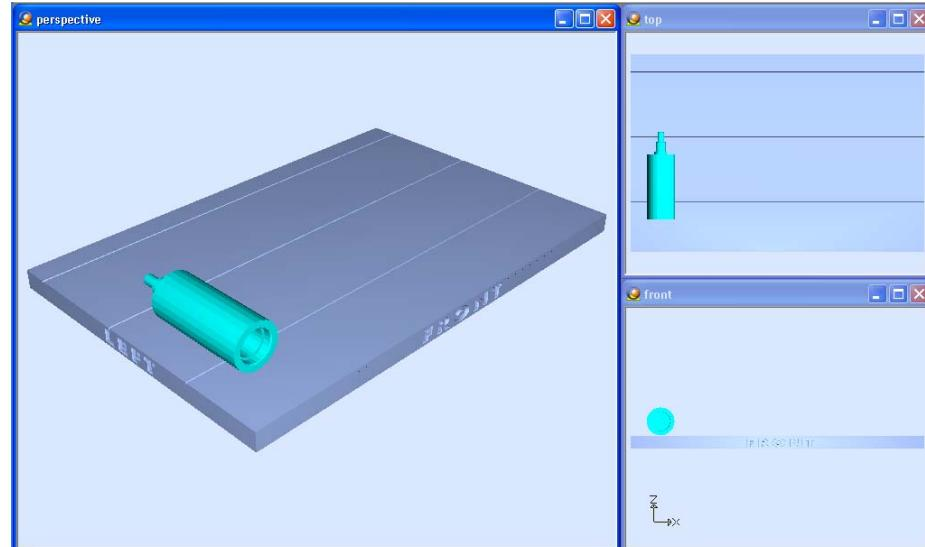

Figure 5-8: 3-view screen layout
- 3 Views** adds *top* and *front* views to the default screen layout (see figure 5-8, below).